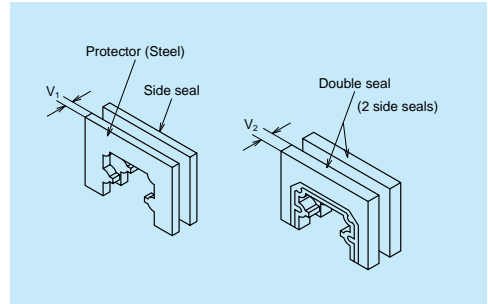

Fig. II-5\*3
- Double-seal set: Can be installed to a completed standard item later on request. It comprises two end seals, a collar, and a small screw for installation (Fig. II-5\*4).
- Double-seal set for LY Series also has a spacer which is installed between end seals (Fig. II-5\*5).